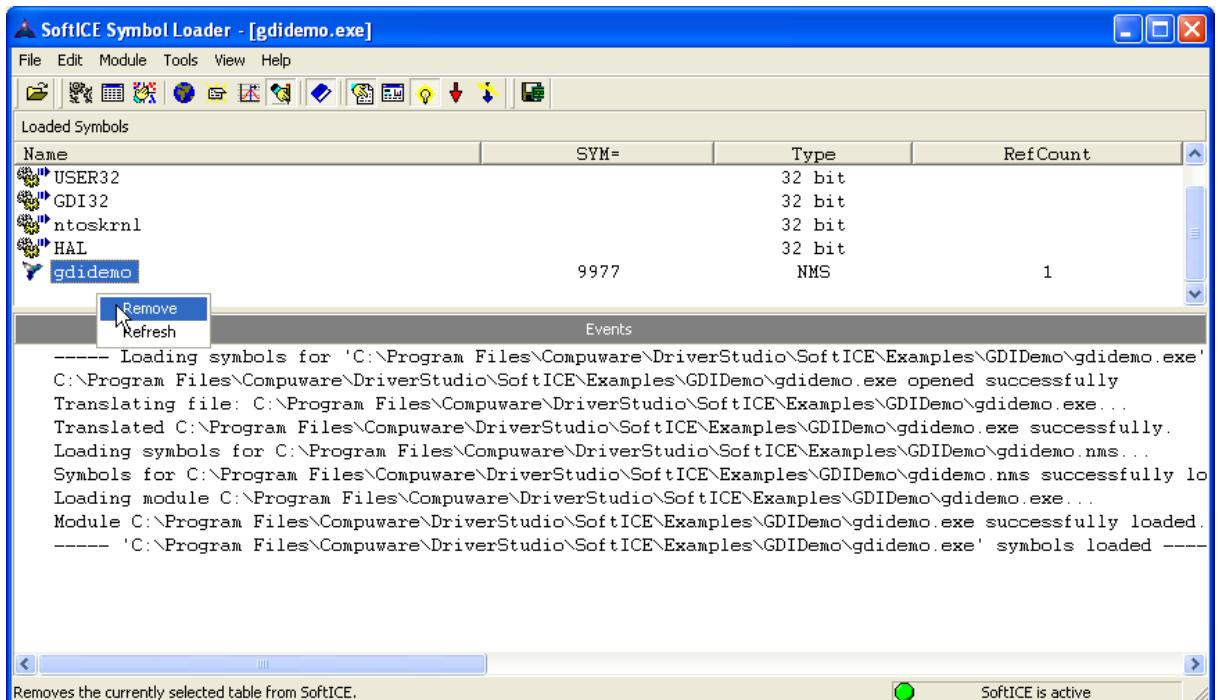
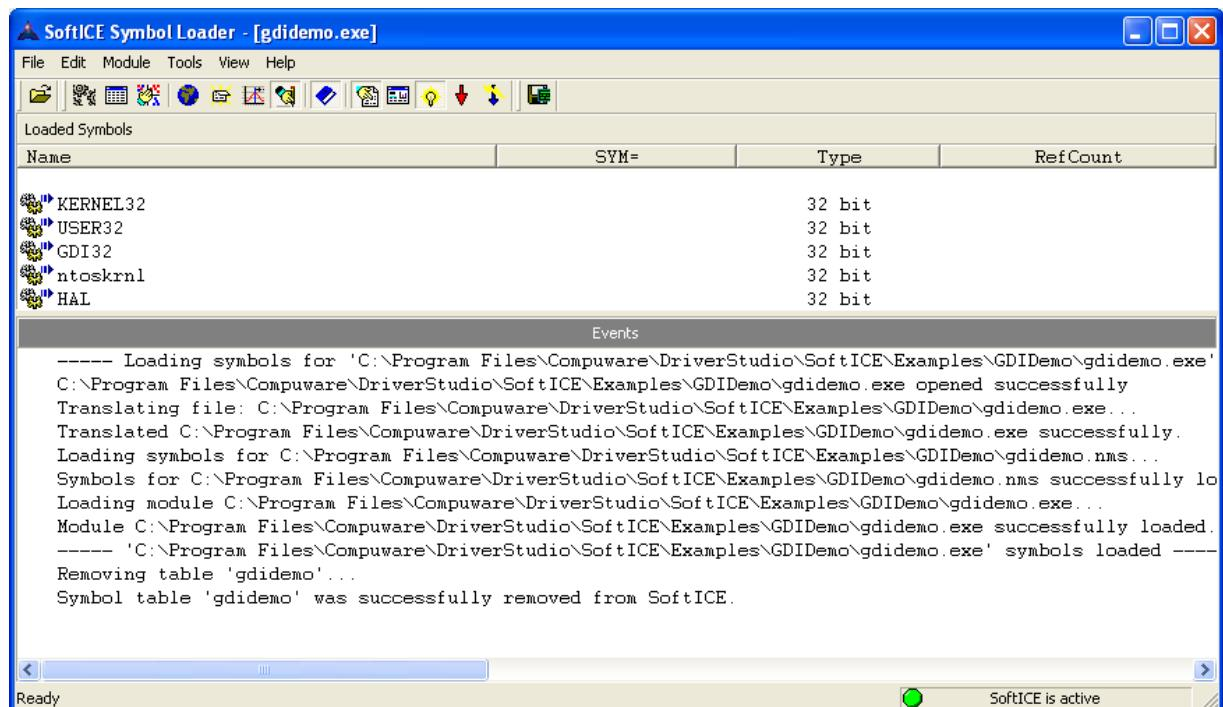

Figure 4-10. Removing a Symbol Table
Figure 4-11. Symbol Table Removed Statement
**Note:** You can also right-click on an item in the Loaded Symbols view (Figure 4-10.) and select Remove from the pop-up menu for an individual file. The selected symbol table is removed (Figure 4-11.).